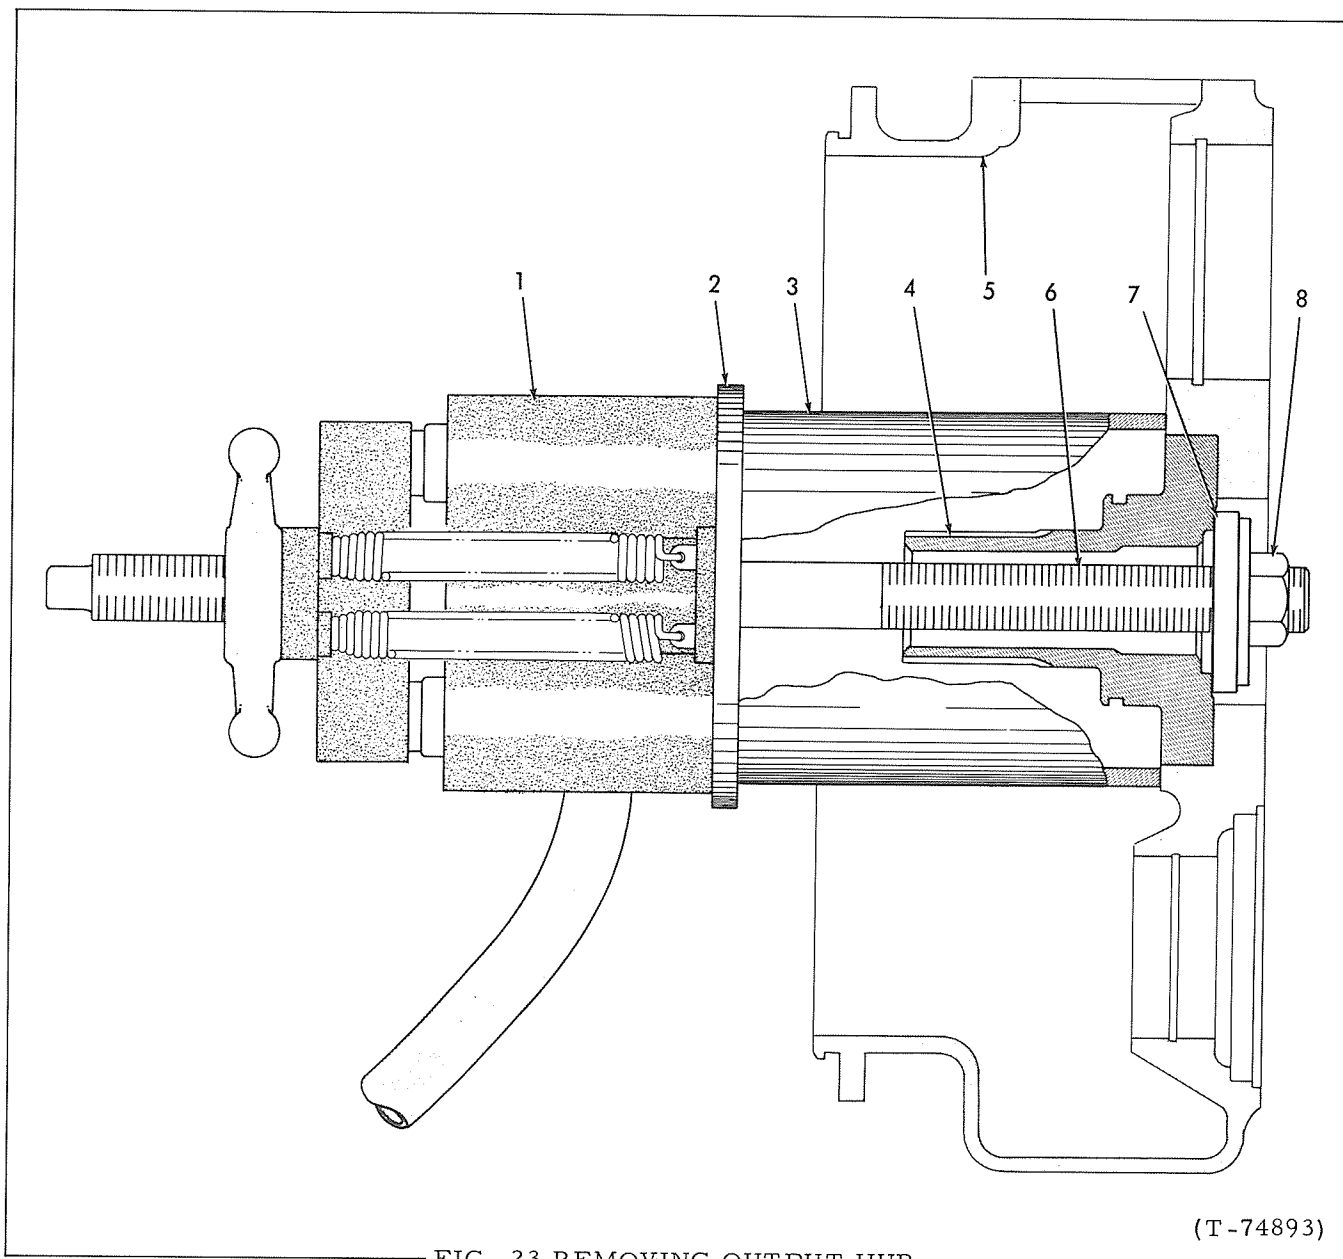

FIG. 23 REMOVING OUTPUT HUB
10. Inspect output hub (refer to INSPECTION). If output hub must be replaced, use suitable tools assembled as shown in Fig. 23 to press output hub out front of housing. Mark position of output hub before removing.
Output hub is .002" - .006" (0.050-1.52 mm) tight in housing; housing may be damaged if output hub is not removed using method shown in Fig. 23.